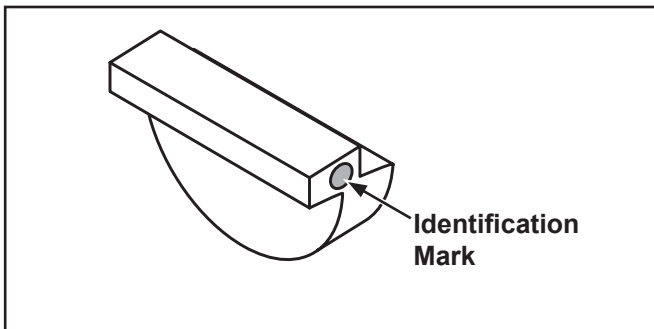
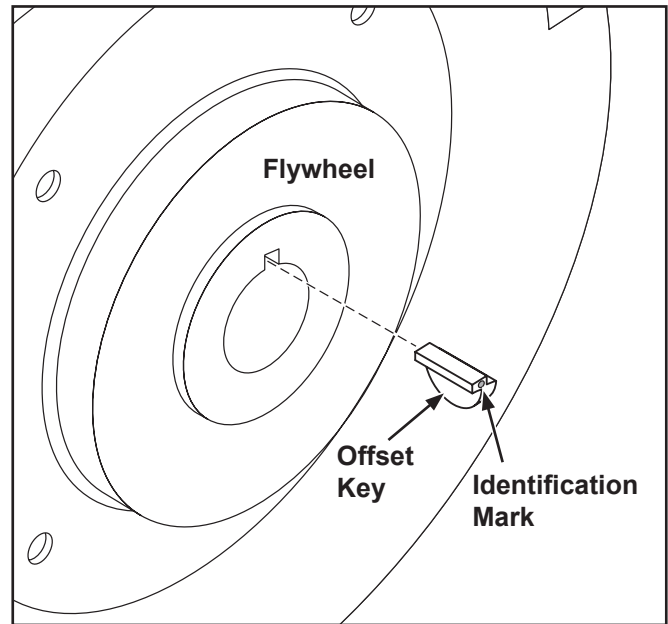

Figure 4. Offset Key (Part No. 24 340 02-S).
Figure 5. Correct Offset Key Installation.
2. Install the 6° offset key. See Figure 4. Correct orientation of the key is necessary for proper ignition timing. The identification mark must face out, when viewing the flywheel as it is mounted. See Figures 5 and 6.